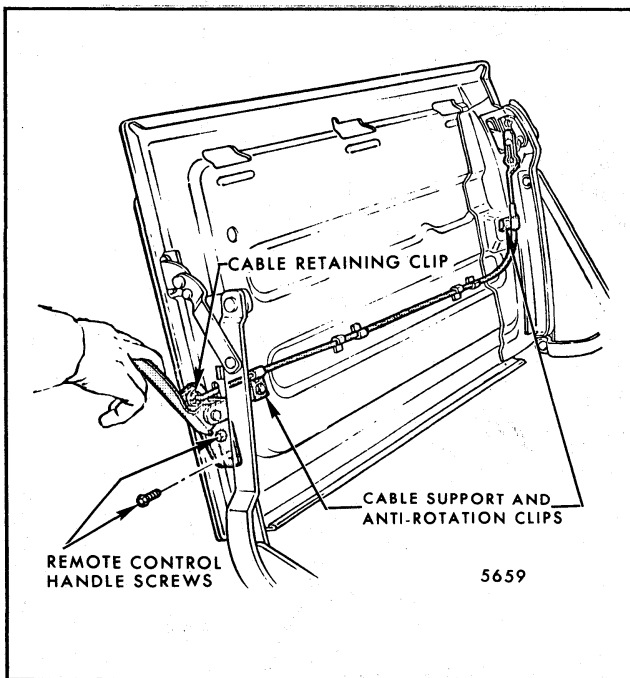

Fig. 9-100-Second 2/3 Seat Back Lock Remote Control Handle Assembly and Cable - "B" Body Three-Seat Station Wagons
Removal and Installation - See Figs. 9-100 and 9-101
2. **Seat Back Lock Remote Control Handle Assembly** - place second 1/3 seat forward or in load floor position. Remove two screws securing handle to seat back panel (Fig. 9-100). Disengage cable retaining clip, detach remote cable from lock and remove lock assembly. To install, reverse removal procedure.
3. **Seat Back Lock Remote Control Cable** - remove seat back trim, foam pad and wire frame assembly as previously described. Remove cable support and anti-rotation clips (Fig. 9-100) from seat back panel. Disengage cable retaining clip at remote handle (Fig. 9-100); then remove cable. To install, reverse removal procedure.